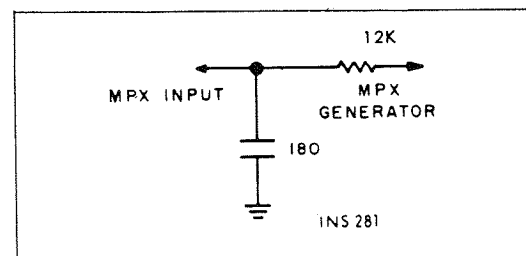

FIGURE 1. LOW-PASS FILTER CIRCUIT.
- Disconnect lead going to connection 4P on the multiplex board. Connect multiplex generator to connection 4P through the low-pass filter shown in Figure 1.